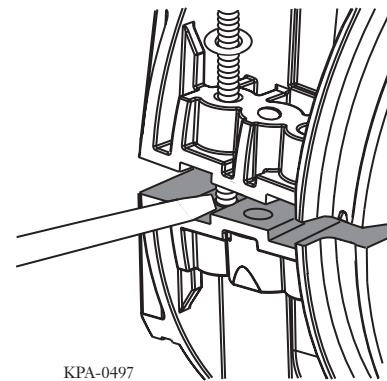

Figure 64 — Tighten Bolts
- Step 7** Insert one of the long bolts into either hole that has a threaded insert (next to the outer closing holes) as shown in Figure 64.